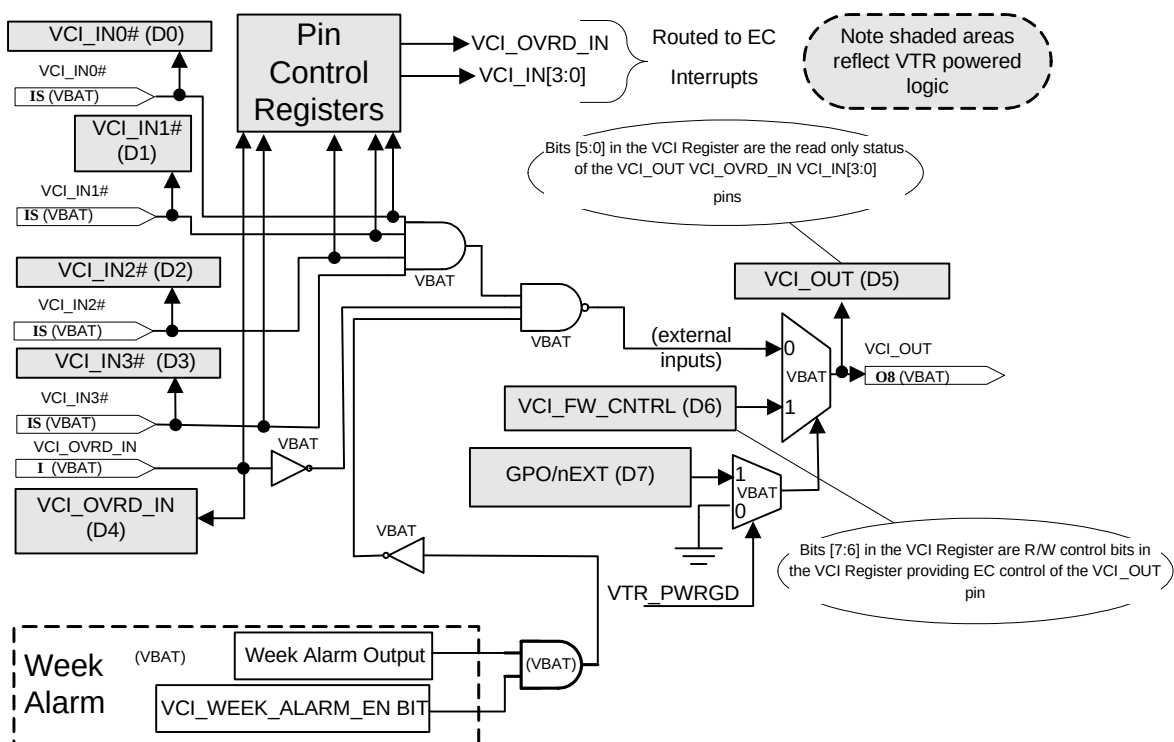

Figure 22.1 VBAT-Powered Control Interface Block Diagram
The WEEK\\_ALRM\\_EN bit in the Week Timer Control Register enables the Week Alarm Power-Up Output function in the VBAT-Powered Control Interface (see Figure 22.1 on page 410). Once the internal Week Alarm Power-Up Output signal drives the input to the VBAT-Powered Control Interface
The MEC5035 VBAT-Powered Control Interface (VCI) is illustrated in Figure 22.1. This block contains the VCI Register. This register monitors the status of the [VCI\\_IN\[3:0\]#](#), VCI\\_OVRD\\_IN, & VCI\\_OUT pins and also provides firmware control of VCI\\_OUT when VTR is present.
3. If the **VCI register** is not written then the **VBAT-Powered Control Interface** glue logic behaves the same way as when VTR is empowered; the **VCI\_OUT** pin is asserted when any one of the an external input (**Figure 22.1 on page 410**) are asserted: the **VCI\_OVRD\_IN**, or **VCI\_IN[3:0]#**, or the Week Alarm Power-up signal are asserted.